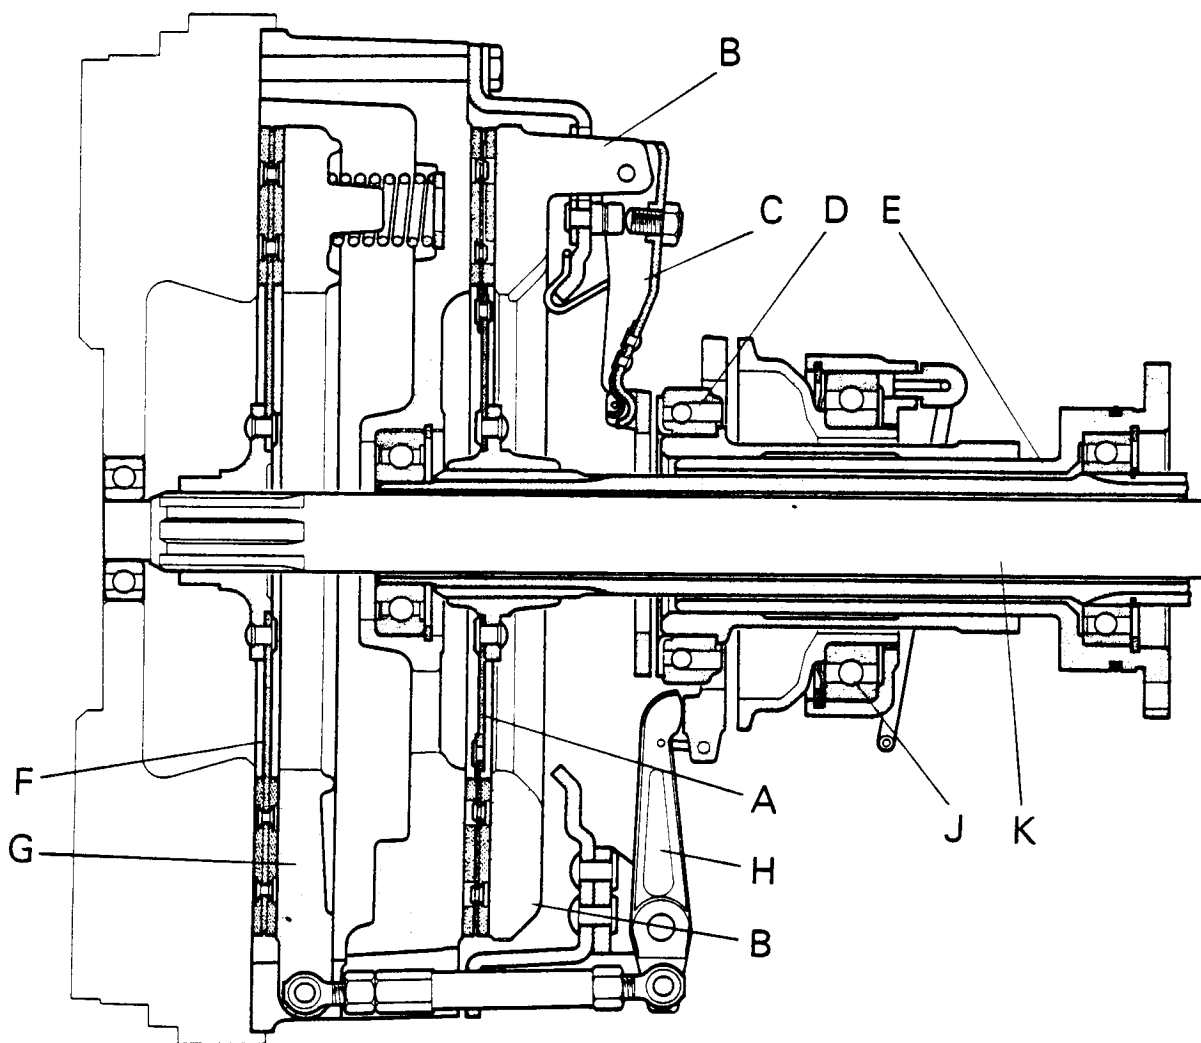

Figure 18. SECTIONAL ARRANGEMENT OF DUAL CLUTCH
**Operation:** The dual clutch fitted in 1200 Livedrive Tractors has two 11 in. (27.9 cm) diameter plates assembled into a single unit but each fitted with its own release mechanism. The transmission clutch is controlled by a foot pedal and the power take-off clutch controlled by a hand lever. Each clutch can therefore be disengaged, or engaged, independently of the other clutch. (Fig. 18.)